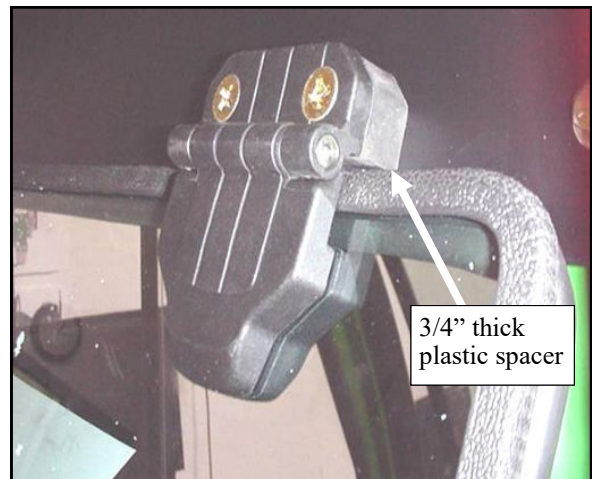

Fig. 10.1.1 3/4" thick spacer block
10.1 With assistance, install the windshield to the windshield support (see fig. 10.1). Use four 5/16-18 x 1 3/4" long flat head bolts, four steel washers, and four lock-nuts. Per fig. 10.1.1, install 3/4" thick plastic spacers between the plastic hinge and the windshield support. Do not tighten.